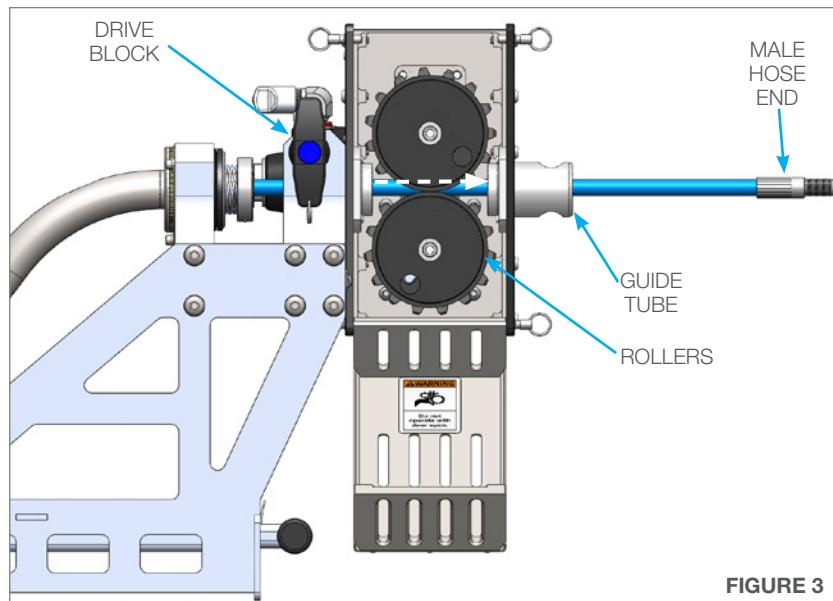

FIGURE 3
3. With the Rollers open, slip the hose through the Drive Block, Rollers and Guide Tube. Be sure to pull enough extension to feed through the Snout. (**Figure 3**)
3. Thread the BOP 084 Threaded Snout Tube into the BOP 085 Camlock at the end of the BOP 090 Snout. (**Figure 3**)